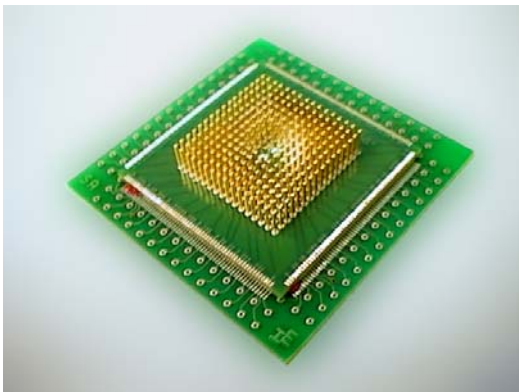

Figure 3: Align the Foot to PCB
(2) Note the target board QFP land pattern and the adapter Pin 1 locations. Place the adapter onto the flux and land pattern as shown in Figure 3. Handle the adapter by grasping the PCB edge (handle by pins when available) and aligning it on the land pattern with the aid of a microscope.
(3) Holding the adapter in place, by pressing down gently, use the soldering iron and tack the four corner pads with the aid of a microscope. This will keep the foot in alignment.